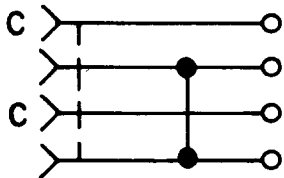

Fig. 9—465-Type Jack
2.09 465B, C, E, F, G, and H: These coaxial-type jacks (Fig. 9) consist of a pair of coaxial jacks held rigidly in a metal cover. Each jack has an inner contact held in a tubular shield which is the outer contact. The outer contacts of the two jacks are connected together electrically. These jacks are to be mounted in jack mountings such as the 185 and 230A. The ac test voltage is 2000 volts. These jacks are used with the 337 or similar-type plugs.